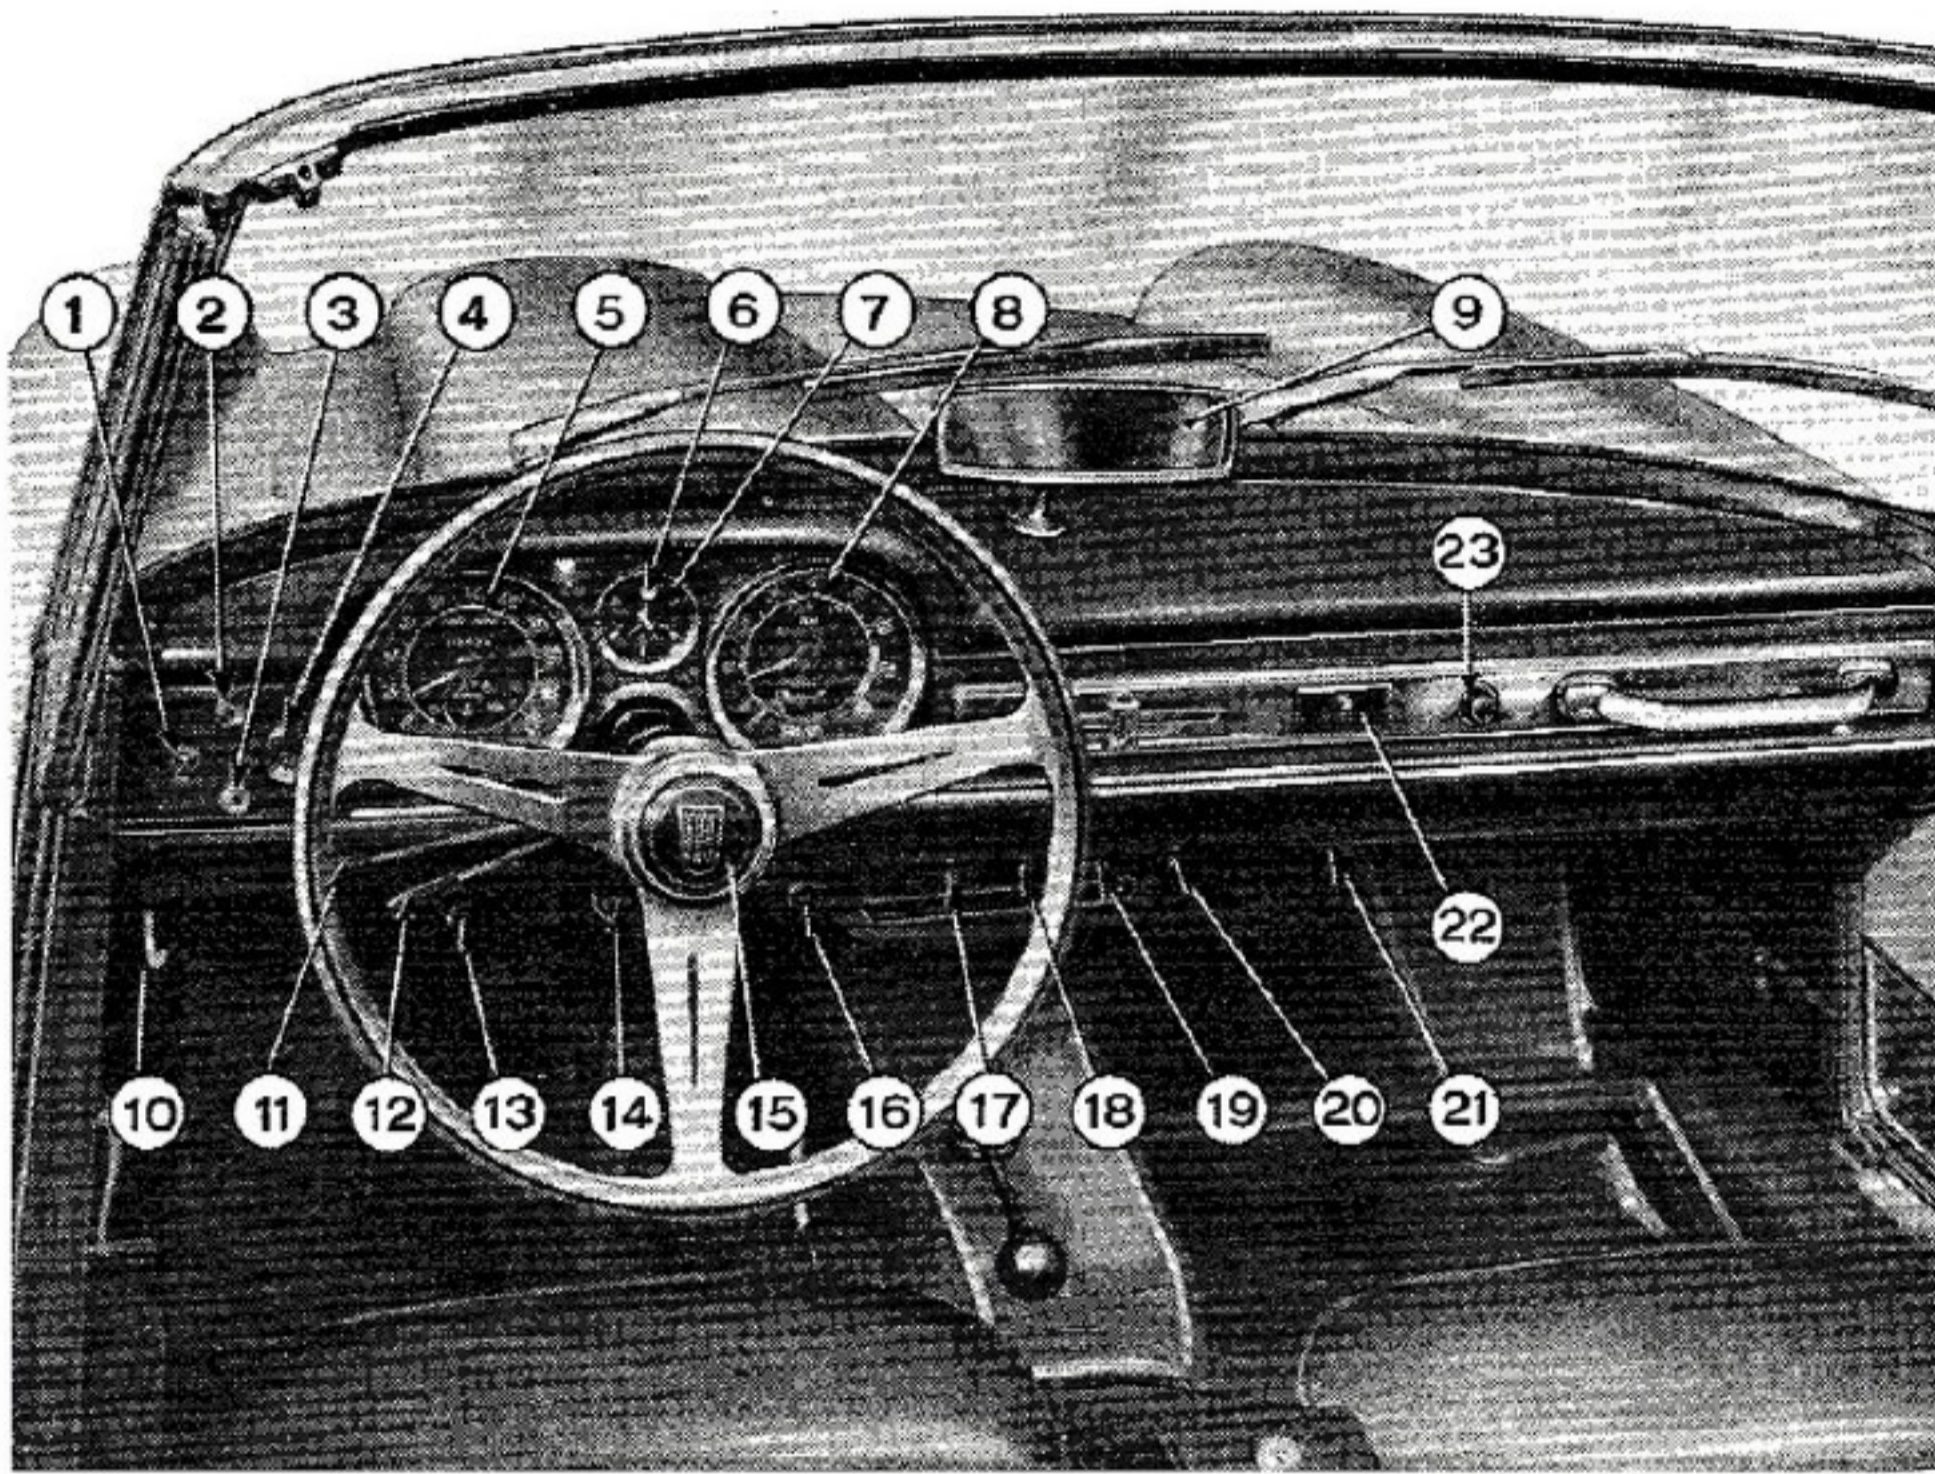

Fig. 7.
11) Outer lighting change-over switch lever (operative when switch 1, fig. 7, is ON).
With switch 1, fig. 7, OFF the low beam flashes can be obtained with lever in any of the three positions.